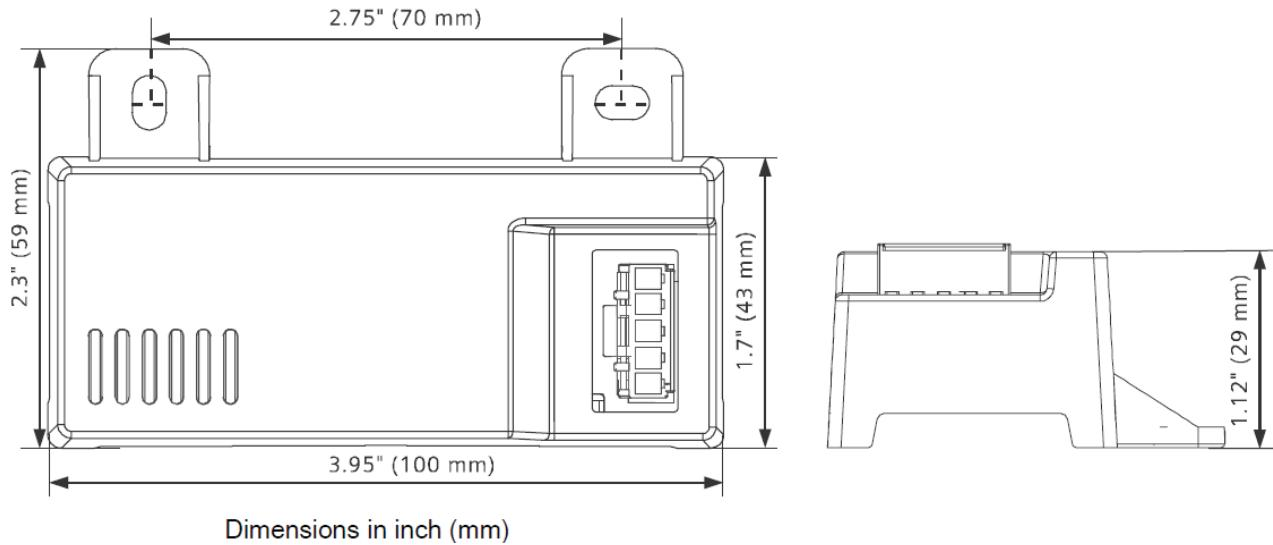
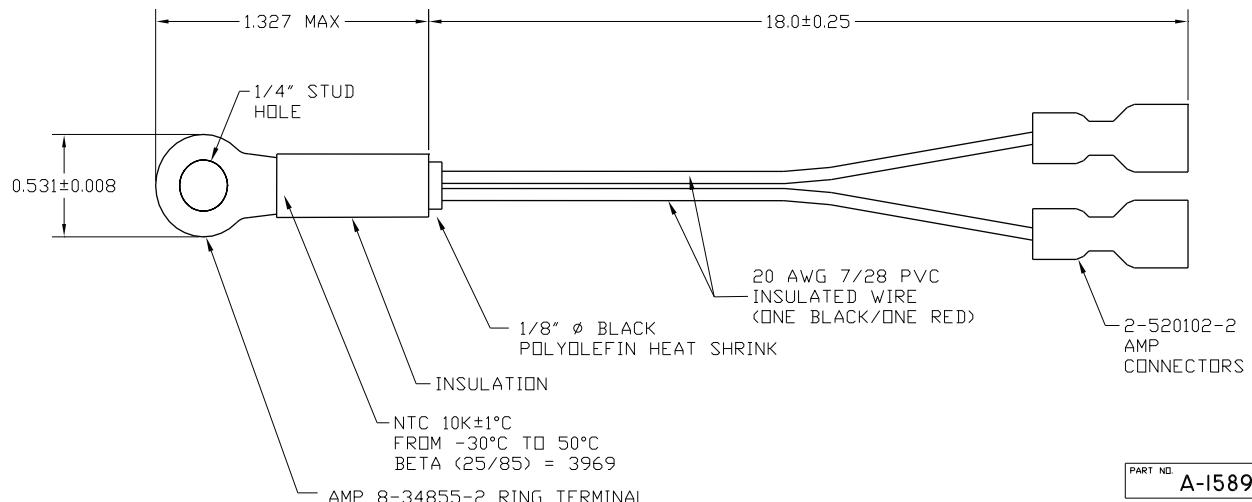
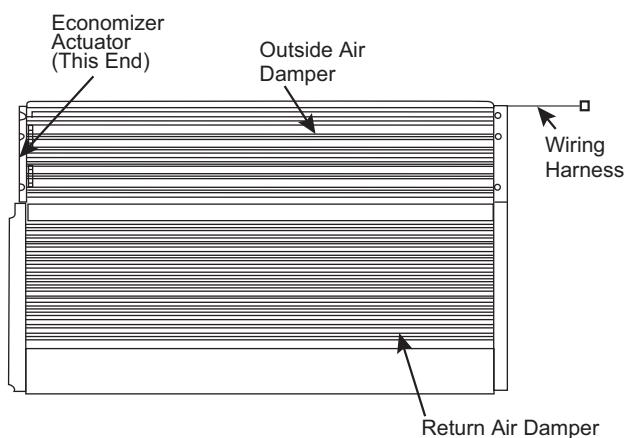

Fig. 83 — HH57LW001 Dimensional, Connection and Switching Information
Fig. 84 — HH79NZ039 Dry Bulb and Mixed Air Sensor Wiring
Fig. 85 — EconomizerONE System Component Locations
When using the HH57LW001 enthalpy sensor (see Fig. 83) for outside air changeover, the existing HH79NZ039 dry bulb sensor (see Fig. 84) must be removed. The enthalpy sensor will be mounted in the same location as the dry bulb sensor (see Fig. 85). When the enthalpy sensor's OA (Outside Air) temperature, enthalpy, and dew point are below their respective set points, outside air can be used for free cooling. When any of these are above their set point, free cooling will not be available. Enthalpy set points are configurable and create an enthalpy boundary according to the user's input. For additional details, see Fig. 86-87 and Table 28.
The optional enthalpy control sensor (P/N: HH57LW001) communicates with the POL224 economizer controller using the 5-wire harness, 48TC005213. The HH57LW001 sensor can be used as a single outside air enthalpy, a differential return enthalpy, or a differential return temperature sensor. Refer to the base unit control wiring diagrams found earlier in this book to wire the HH57LW001 enthalpy sensor for each option. See Fig. 83 and Table 30 on page 67 to locate the wiring terminals for each enthalpy control sensor.
Economizers are shipped standard with an HH79NZ039 outside air dry bulb sensor (refer to Fig. 84). System default setting (high temp limit) is 63°F (17°C) and has a range of 48°F to 80°F (9°C to 27°C). Sensor is factory installed on economizer.
If installing the optional HH57LW001 enthalpy sensor, the HH79NZ039 dry bulb outside air sensor must first be removed. Wire sensor to harness 48TC005213 and the (5) wires from the harness to the EconomizerONE harness in the return air chamber. Harness 48TC005213 has a 5-pin plug that connects directly to the HH57LW001 enthalpy sensor. Refer to the base unit control wiring diagrams earlier in this book for wiring connections. Refer to Fig. 83 and see Table 30.